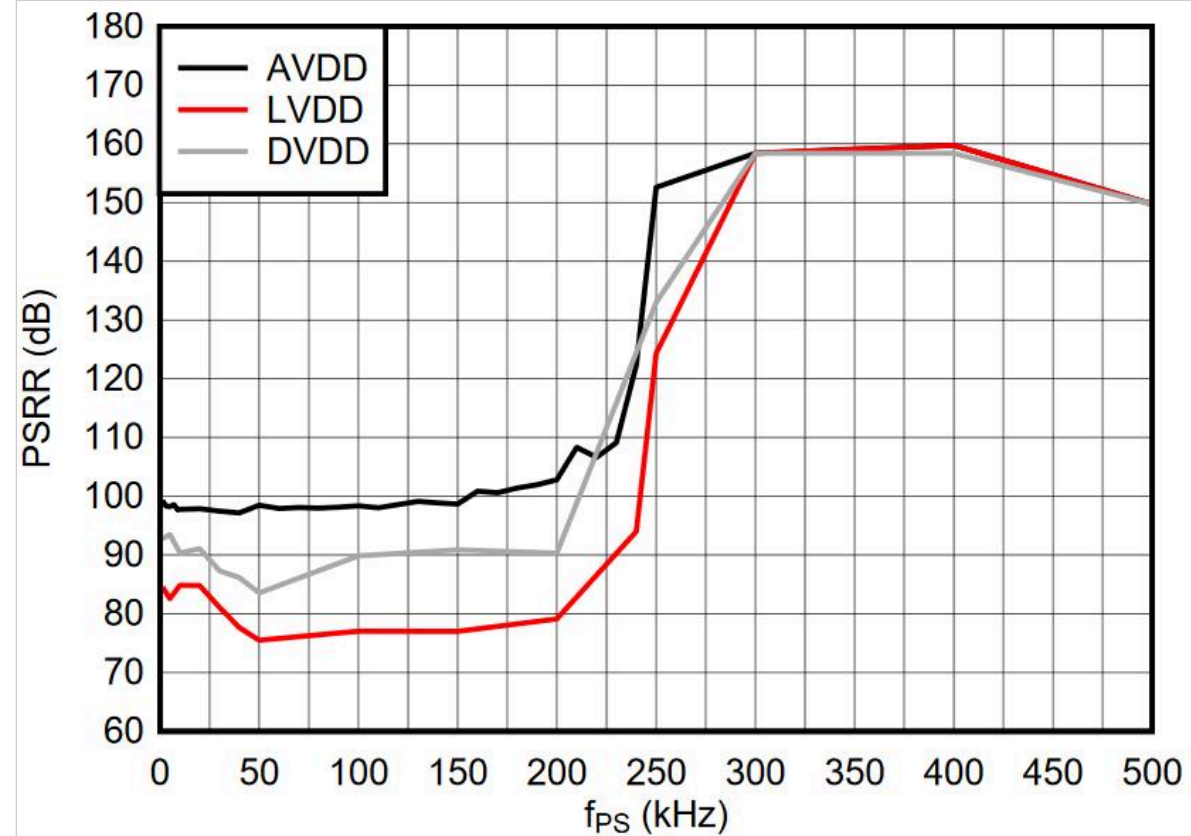

Figure 1. $T_A=25^\circ\text{C}$, $AVDD = 3.3\text{V}$, $VREF = 2.5\text{V}$, $HR\ Mode$, $INTLDO = 1$
In part 11, we looked at the PSR ratio (PSRR) for each of the power supplies used by the Texas Instruments (TI) ADS127L01 (shown again in Figure 1). Like most ADCs, the ADS127L01 uses both an analog and a digital supply (AVDD and DVDD, respectively). We chose this device for our discussion because it also requires a third supply called the low-voltage dropout supply (LVDD). LVDD directly powers the delta-sigma modulator in the ADS127L01. The LVDD supply can either be provided from an internal low-dropout regulator (LDO) (connected to AVDD) or from an external LVDD supply source. As you'll see later in this article, driving LVDD externally with a noisy supply will have the most adverse effect on ADC noise performance.
From Figure 1, you can see that LVDD is most susceptible to coupling noise into the ADC output because it has the lowest PSRR of the three supplies. LVDD is most sensitive to noise because it directly powers the delta-sigma modulator, which in turn directly controls the analog-input-to-digital-output conversion process. Comparatively, AVDD powers the remaining analog circuitry, including generating the main bias current, but this has less of a direct impact on the conversion results. Powering the ADC’s digital core, DVDD has the least impact on the conversion results because the modulator output is already in binary form when it reaches the digital decimation filter. For devices that require multiple supplies, prioritize the supply that most directly powers the delta-sigma modulator, which is typically AVDD.
Ultimately, these experiments confirm the results in Figure 1 while reiterating that some supplies – especially the one that feeds the delta-sigma modulator – are more susceptible to power-supply noise than others and may require special care to maintain high PSR.
Another technique you can use to mitigate power-supply noise employs frequency planning, either for the switching regulator or your ADC. As discussed in part 11 and reiterated in Figure 1, ADCs can exhibit different PSRR characteristics on each supply. Additionally, all ADC supplies will see a large boost in PSRR at frequencies that fall within the digital filter stop band (see Figure 1). In delta-sigma ADCs, the digital filter response repeats at multiples of the modulator frequency (f_{MOD}). Therefore, switching noise may still alias into the ADC passband if this noise happens to fall near the modulator frequency or any multiple thereof.